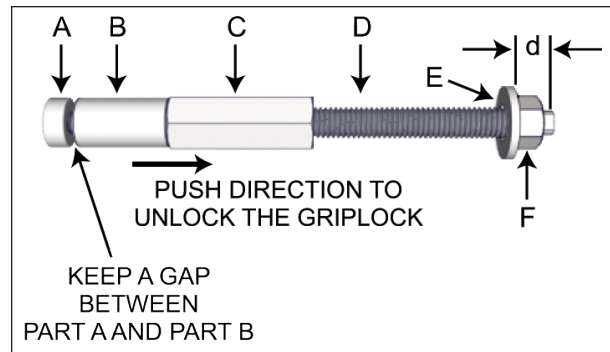

FIGURE 48: GRIPLOCK DEVICE
1. Install the Griplock completely into the hexagonal coupling nut, see Figure 48.
4. Ensure that the washer and the hexagonal nut are mounted at the minimum distance of $d=1/2"$, see Figure 48.
5. Keep a gap between part A and part B as shown in Figure 48.
6. Push on the Griplock nut according to the specified direction to unlock the mechanism, see Figure 48.
If the Griplock assembly does not fit easily, it must be because the Griplock nut ("A" in Figure 48) has not been loosened enough.